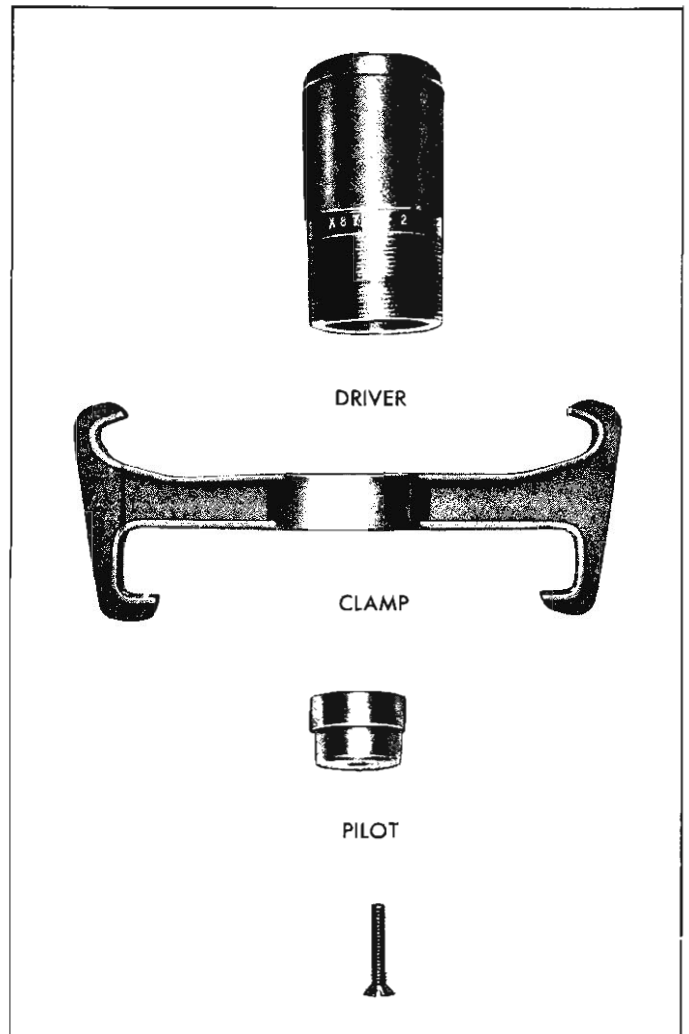

Fig. 9—Balancer Tool-Assembly, for V-8
1. Thread the driver section of Tool into clamp section from shallow fingers to deep fingers (fig. 9).